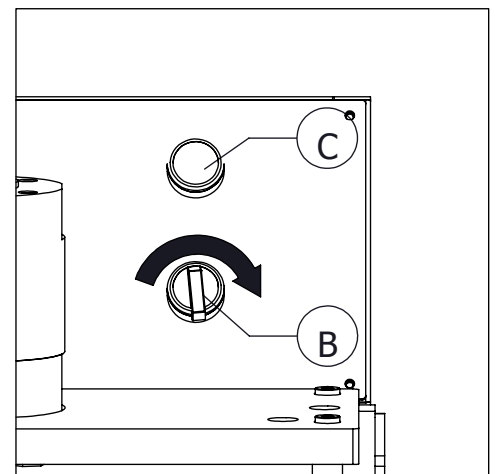

Figure.7
- Turn the 1th and 2nd on/off buttons to the left. (Figure.7)
- On each pressing of time entering button (Figure.7-C), 1th pressing time increases 1 second.
- Turn the 1th and 2nd on/off buttons to the right. (Figure.7)
- Push Time Entering Button (Figure.7-C) during 3 seconds. At the end of the time button's light to be on and off.
- If 2nd pressing time is zero your machine does not run. For running of the machine you have to set 2nd pressing time. (Figure.7)